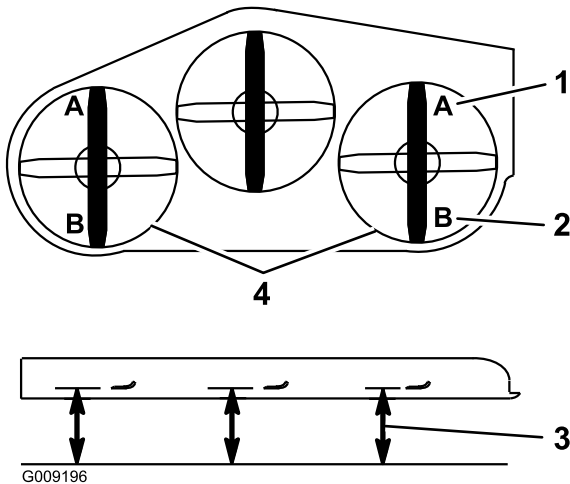

Figure 87
9. On both sides of the deck, measure from the level surface to the front tip of the blade (Position A). The measurement should read 3 inches (7.6 mm) (Figure 87).
- On both sides of the deck, measure from the level surface to the back tip of the blade (Position B). The measurement should read 3 1/4 inches (8.3 cm) (Figure 87).